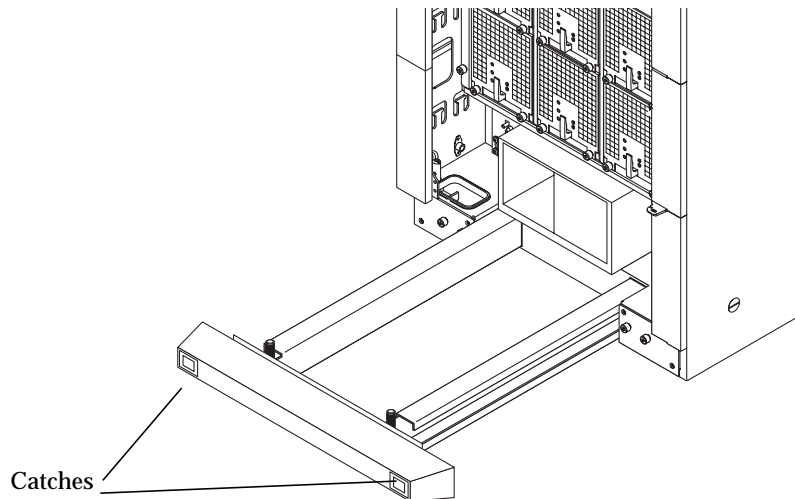

FIGURE 1-1 Anti-Tilt Bar Extended
1. **Release the catches and extend the anti-tilt bar** (FIGURE 1-1).